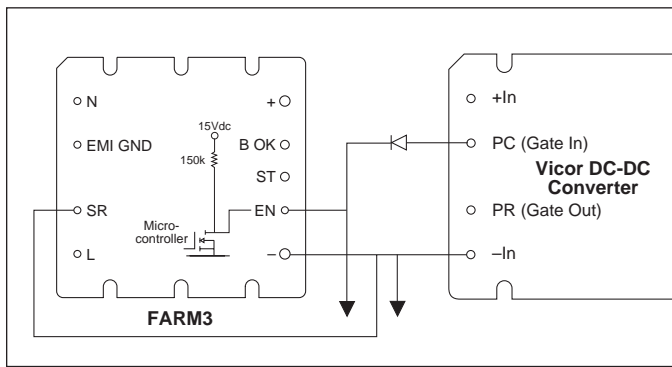

Figure 11—Enable (EN) function
Enable (EN) Pin. The Enable pin must be connected to the PC or Gate-In pin of all converter modules to disable the converters during power-up. Otherwise, the converters would attempt to start while the hold-up capacitors are being charged through the current limiting thermistor, preventing the bus voltage from reaching the thermistor bypass threshold, thus disabling the power supply. The Enable output (the drain of an N channel MOSFET) is internally pulled up to 15V through a 150k Ω resistor. (see Figure 11)